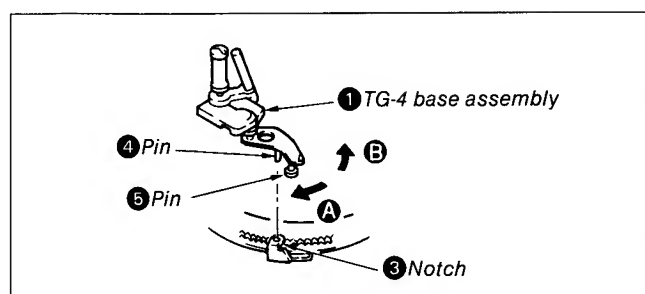
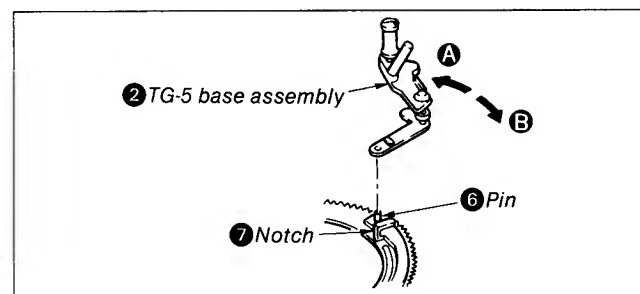

Fig. 8-25.
Fig. 8-26.
- 3) Set into **[GUIDE LOAD]** mode and remove TG-4 base assembly ① and TG-5 base assembly ② from the groove of the drum base.
- 4) Remove the TG-4 base assembly from the notch ③ by turning around section the upper of pin ⑤ in the direction of arrow A by centering pin ④ of the TG-4 base assembly ①. (See Fig. 8-25.)
- 5) Remove pin ⑤ from the hole of notch ③.
- 6) Remove TG-5 base assembly ② from notch ⑦ by moving it in the direction of arrow A (See Fig. 8-26)